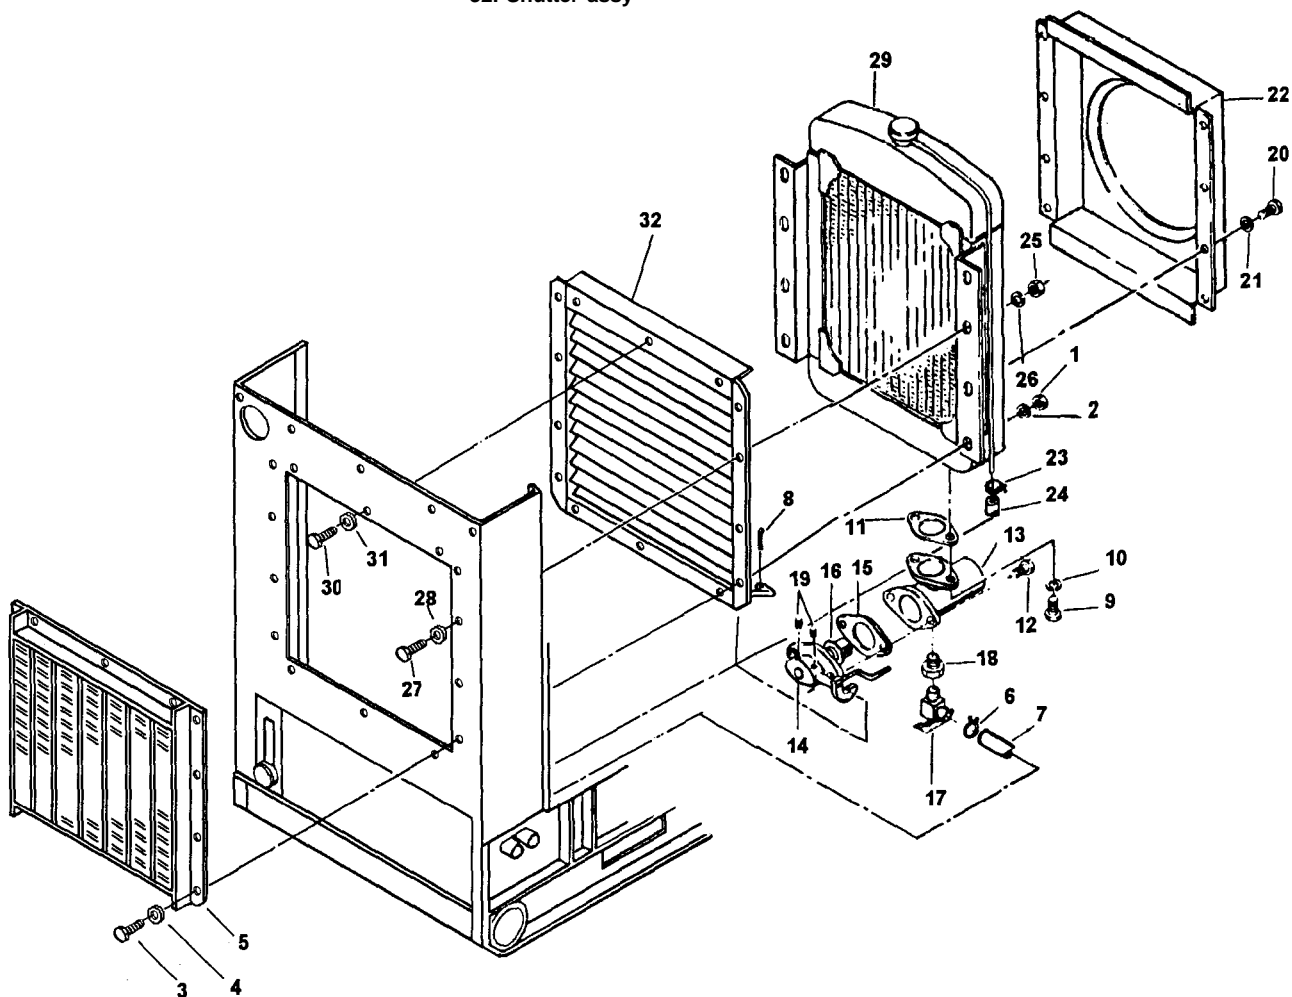
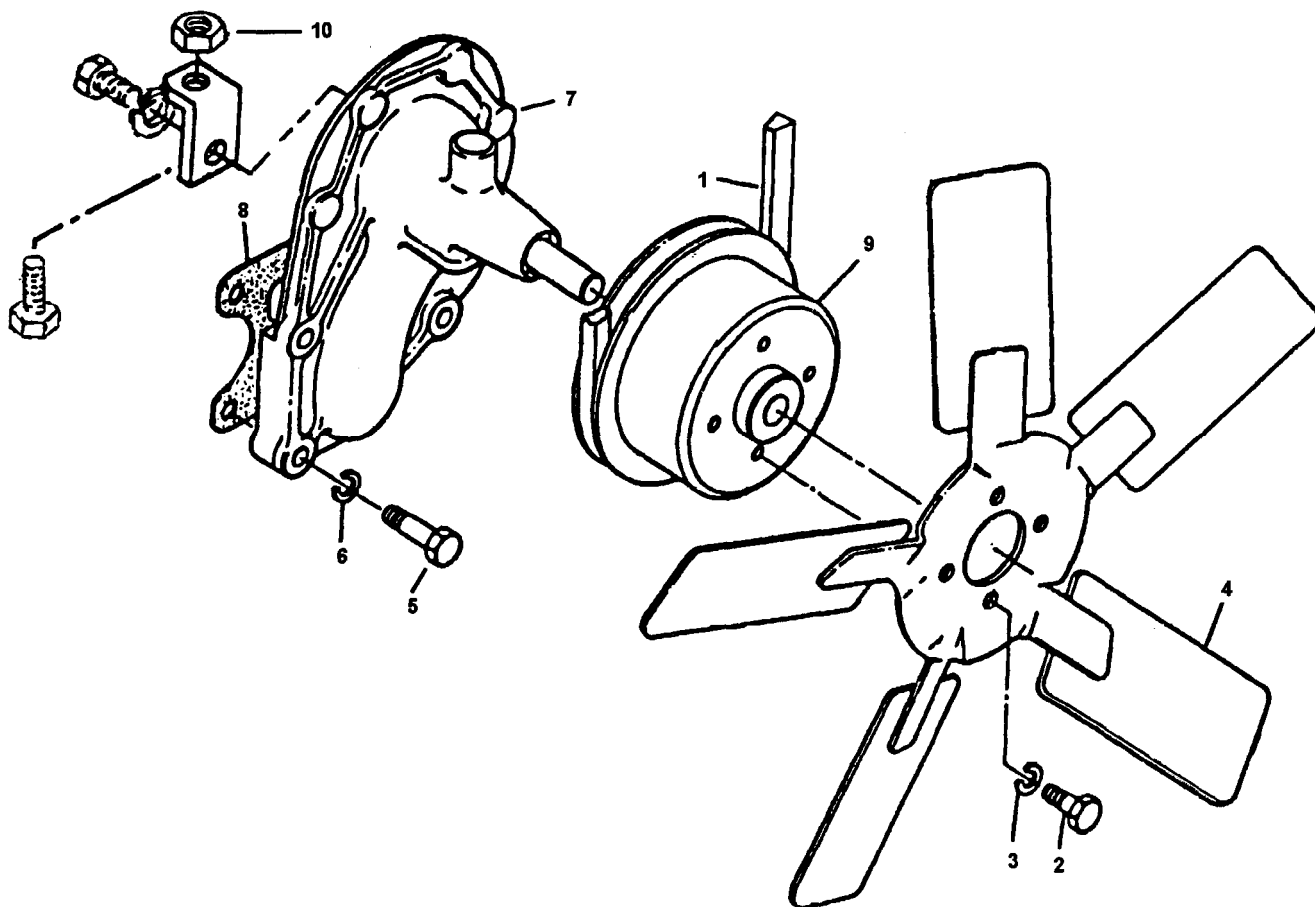

Figure 4-23. Grille, Radiator, and Shutter Assembly, Exploded View
Figure 4-25. Water Pump, Cooling Fan and V-Belt, Removal and Installation
- a. Removal. Remove nuts (1, Figure 4-23), lockwashers (2), screws (3), flatwashers (4) and remove grille (5).
- (1) Clean grille with a mild soap and water solution, rinse with clean water and dry thoroughly.
- (2) Inspect grille for cracks, corrosion, broken welds, dents, and other damage.
- (1) Repair grille by straightening cross members and removing minor dents.
- (2) Replace grille if damaged beyond simple repair.
- d. Installation. Install grille (5, Figure 4-23), flatwashers (4), screws (3), lockwashers (2), and nuts (1).
- (1) Drain radiator and disconnect radiator hoses (paragraph 3-27).
- (2) Loosen clamp (6, Figure 4-23) and remove drain tube (7).
- (3) Remove cotter pin (8) to disconnect shutter control linkage.
- (4) Remove screws (9) and Lockwashers (10) to remove control assembly and gasket (11 ). Discard gasket.
- (5) Remove screws (12) to separate thermostat housing (13) from linkage (14).
- (6) Remove gasket (15) and thermostat (16). Discard gasket.
- (7) Do not remove drain cock (17) and adapter bushing (18) unless damage is present and replacement is necessary.
- (1) Loosen setscrews (19, Figure 4-23). Push upon shutter control linkage manual control until shutter vanes are sealed, then tighten setscrews.
- (2) If removed, install adapter bushing (18) and draincock (17).
- (3) Install thermostat (16) and new gasket (15).
- (4) Attach linkage (14) to thermostat housing (13) and secure with screws (12).
- (5) Install control assembly and new gasket (11), lockwashers (10), and screws (9).
- (6) Connect shutter control linkage and install cotter pin (8).
- (7) Install drain tube (7) and tighten damp (6).
- (8) Connect radiator hoses and install attaching hose dampers and refill radiator.
- (1) Remove front top housing panel and doors (paragraph 4-85).
- (2) Remove shutter control thermostat and housing (paragraph 4-37).
- (3) Remove fan guards (paragraph 3-31).
- (4) Loosen clamps (23, Figure 4-23) and disconnect overflow tube (24).
- (5) Remove grille (paragraph 4-36),
- (6) Remove nuts (25, Figure 4-23), lockwashers (26), screws (27) and flat washers (28) to remove radiator (29).
- (1) Position radiator (29, Figure 4-23), to install flat washers (28), screws (27), lockwashers (26), and nuts (25).
- (2) Install grille (paragraph 4-36).
- (3) Connect overflow tube (24, Figure 4-23) and tighten clamps (23)